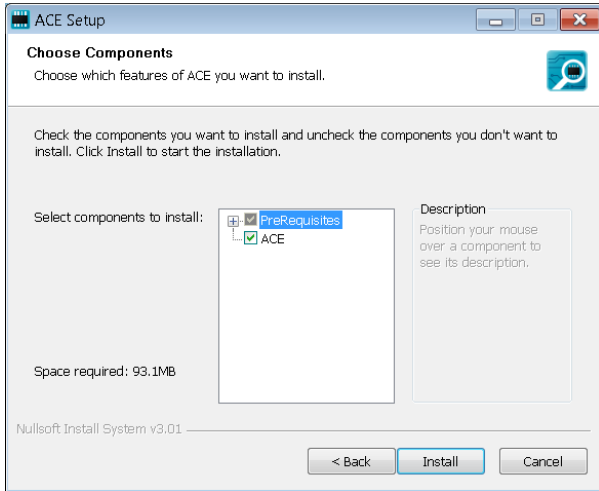

Figure 6. Choose Components
- The ACE software components to install are preselected (see Figure 6). Click **Install**.